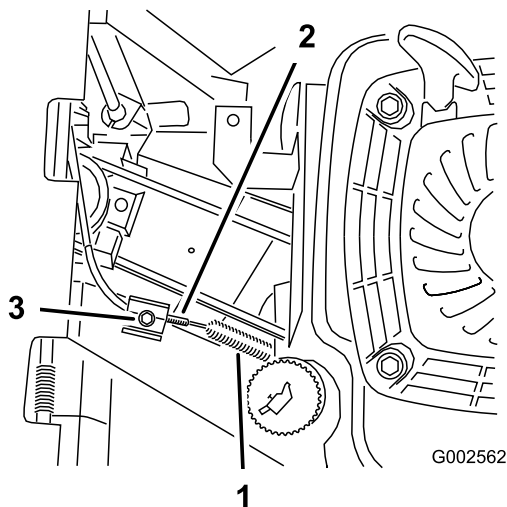

Figure 29
4. Loosen the cable clamp screw until the brake cable conduit slides (Figure 29).